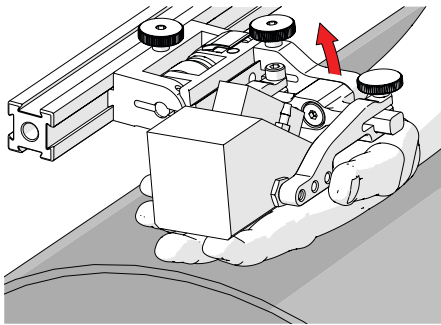

Fig. 76 - Lift to Latched position
1. Ensure probe holder is in latched, upper position (Fig. 76). If the probe holder is already latched, it will only move within the slip joint adjustment range and have no spring tension.
1. Ensure the probe holder is in the upright latched position (Fig. 76).